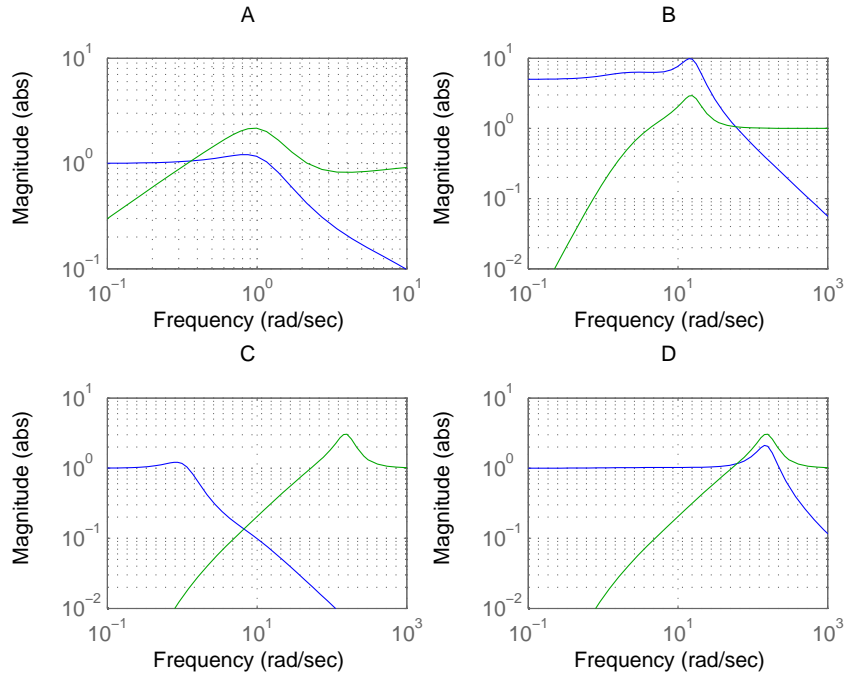

Figure 14.3 Magnitude plots of S and T in problem 6.
- c. Figure 14.3 shows four plots, where one of the plots shows the sensitivity and complementary sensitivity function of a closed-loop system discussed in **b**, with $\omega_0 = 1$ and a particular choice of $C_2(s)$. Which plot?